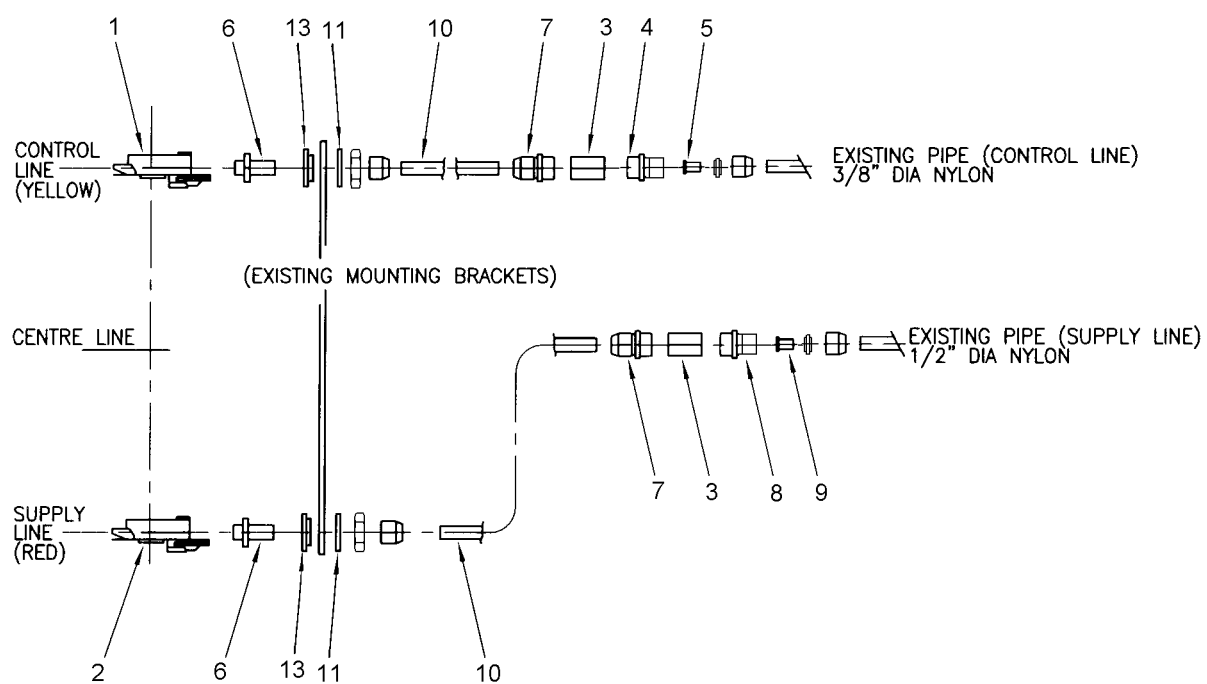

Fig 4 New installation for 4 tonne Bedford
9.4 Make up and fit replacement self-sealing palm couplings, bulkhead adaptor combination to the mounting bracket. Emergency (Red) outlet and 12mm dia. pipe to the right-hand side and the Service (Yellow) outlet and 12 mm dia. pipe to the left-hand side when viewed from the rear. An M23 plain washer should be fitted on the inside of the adaptor and a shouldered washer on the outside, to compensate for the oversize hole in the bulkhead and to ensure no lateral movement of the pipe. (See Fig 4).